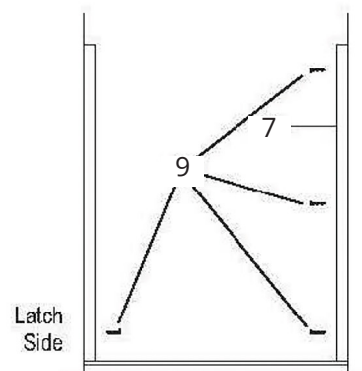

Figure 2
2. Set wall channels in place and secure with #8 x 1 1/4" screws (17) using bottom screw only on latch side (See figure 2).